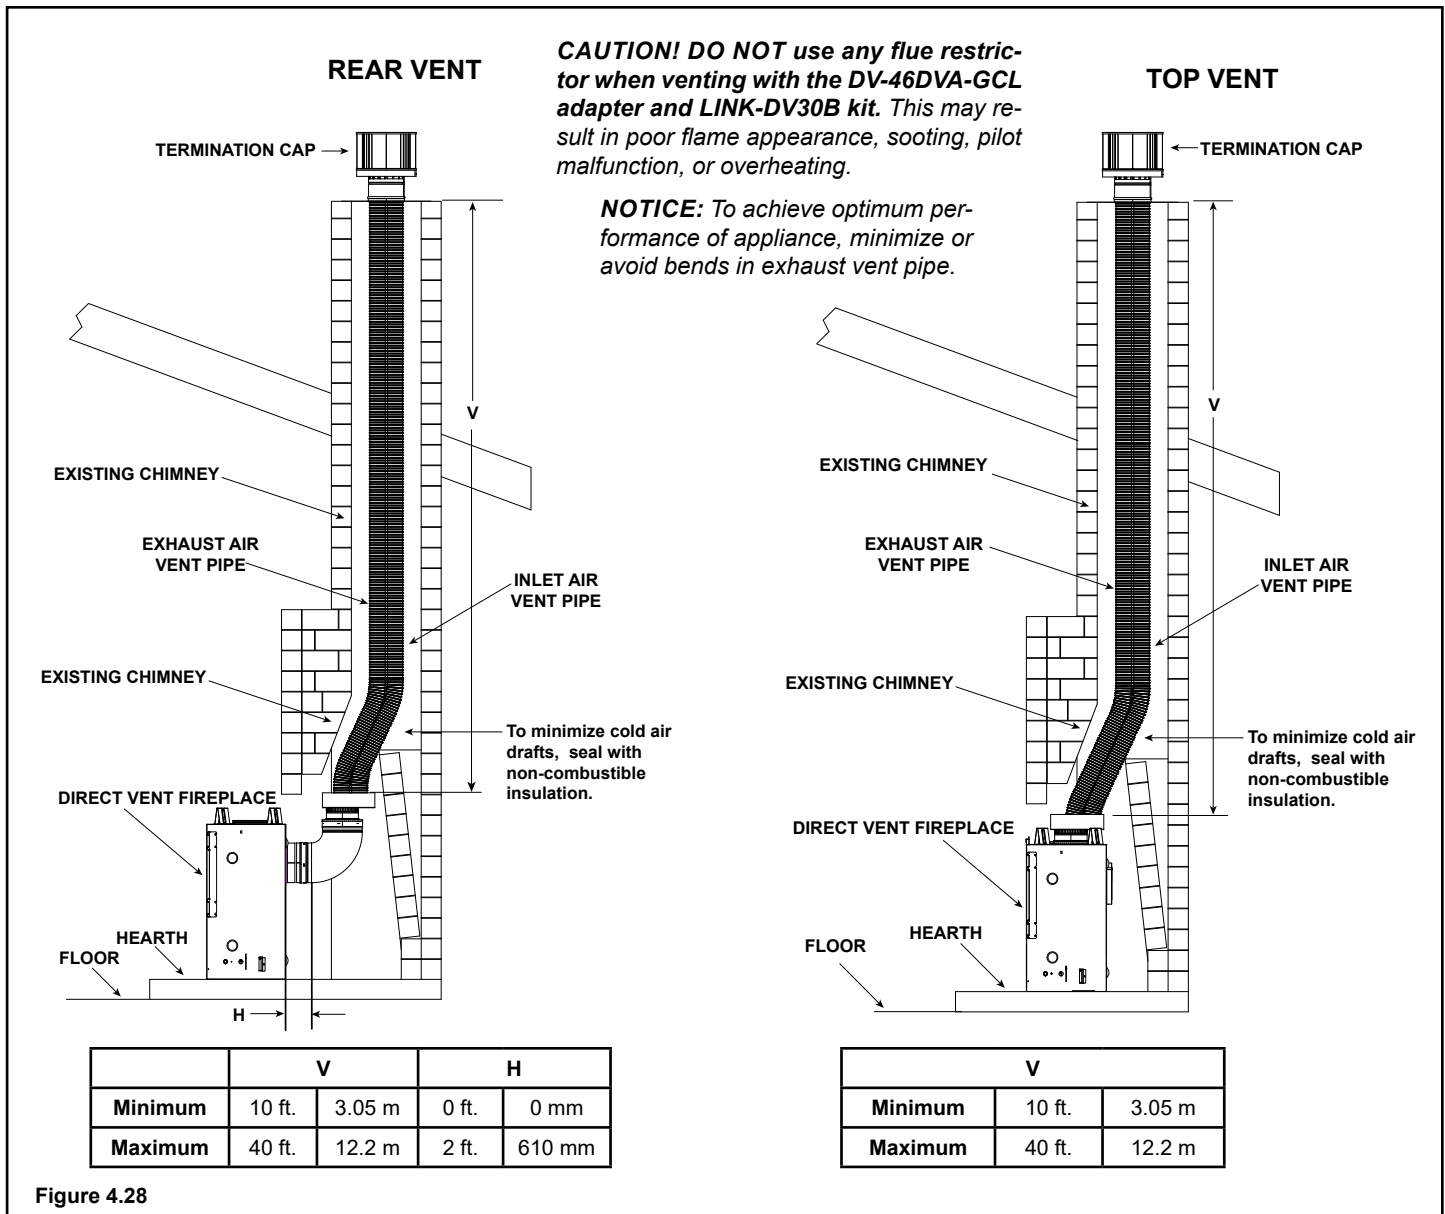

Figure 4.28
**SLP Collar:** Install the DV-46DVA-GCL adapter to the appliance starting collar with 3-1/2 in. self-tapping screws. See Figure 4.28.
- Remove the rear seal cap and insulation if equipped. Connect the DVP-2SL adapter to the vertically positioned elbow. Follow installation instructions included with DVP-2SL kit. Secure DV-46DVA-GCL adapter to DVP-2SL with 3-1/2 in. self-tapping screws. See Figure 4.28.